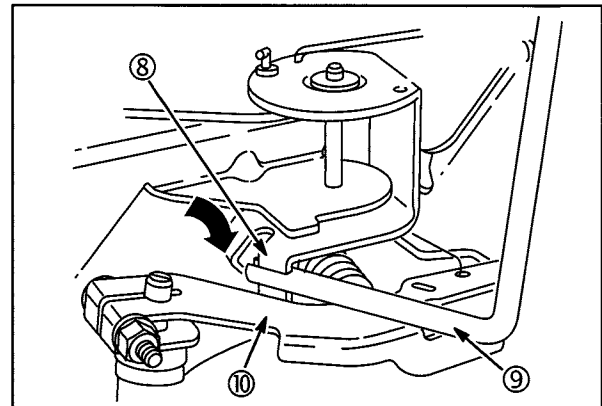

Fig. 14
- b. Press limiter into position using Knock Out Pin, #19135 (6) as shown.
11. With equipment control lever in SLOW position and engine running at governed idle, use Tang Bender, #19352 (9), to bend throttle restrictor tang (8) so that tang just contacts governor lever (10), **Fig. 14**.